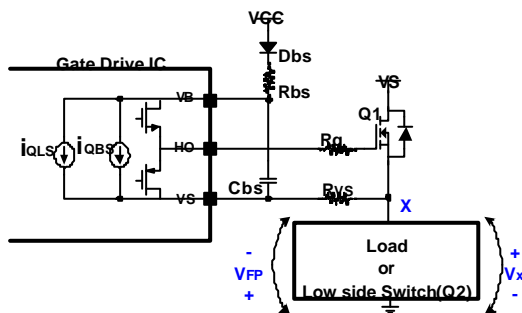
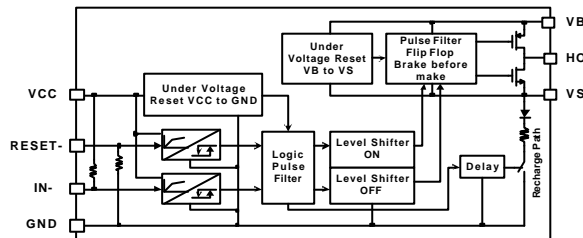
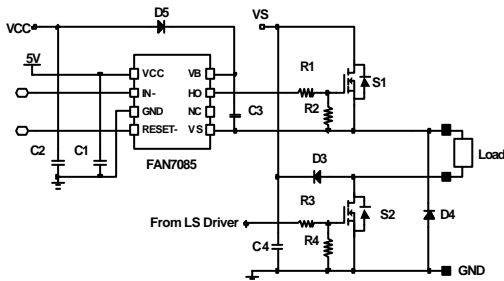

figure 1. Bootstrap Circuit
Figure 2. Internal block diagram of FAN7085
Figure 3. Application example of FAN7085
Using a N channel MOSFET as a high side switch requires a voltage supply referenced at the source of the MOSFET. One of the most widely used method in supplying power to the high-side circuitry is the use of the bootstrap floating supply due to its inherent simplicity and inexpensive features. This kind of floating supply is suitable for providing a gate drive circuitry to directly drive high side switches that operate up to rail voltages. The basic circuit of the bootstrap supply, shown in Figure 1, is formed by a diode (Dbs) and a capacitor (Cbs). But, this type of floating supply has limitations on refreshment of Cbs when duty cycle is very high or turn-on time is very long. In the case where the gate voltage is not enough to fully turn-on the MOSFET (Q1), the output of gate drive IC (HO) should be turned-off to prevent the Q1 from operating in high dissipation mode. The optional gate resistor (Rg) is used for the purpose of controlling the turn-on/turn-off time of the Q1, and the bootstrap resistor (Rbs) is used to limit the current and prevent the bootstrap capacitor (Cbs) from overcharging.
start-up phase can be defined by the time constants  $R_{bs}$ ,  $R_{vs}$ , and  $C_{bs}$ . When the load is connected and forms the charge path in the bootstrap circuit, the initial charging time is defined by  $C_{bs}$  and the relationship between  $R_{bs}$ ,  $R_{vs}$ , and the load impedance  $R_L$ . Most designs, the value of  $C_{bs}$  is picked with some margins, which leads to longer start-up time. If node X is left floating for a long time,  $V_{bs}$  will decrease due to leakage current, and consequently the gate drive IC will go into UVLO condition. Controlling the low side switch properly, the bootstrap capacitor can be recharged and maintain the voltage level needed by the gate drive IC. The gate drive IC FAN7085 (block diagram shown in Fig.2) has a built-in recharge switch that will charge the bootstrap capacitor regardless of the application. If Q1 is turned off and FAN7085 is used as a gate drive IC in the bootstrap circuit shown in Figure 1, the internal recharge switch of the FAN7085 will activate to provide the path to charge the bootstrap capacitor ( $C_{bs}$ ) fully. Let's look at a specific application of the FAN7085, which is shown in Figure 3. In the event that both of the switch (S1 and S2) are turned off, the internal recharge switch of the FAN7085 will provide the path to charge the bootstrap capacitor. If the current level passing through the recharge switch is higher than the leakage current, bootstrap capacitor will charge through the recharge path. The voltage level on the VS pin of the FAN7085 at a given current level when the recharge switch is turned on is defined on the datasheet.